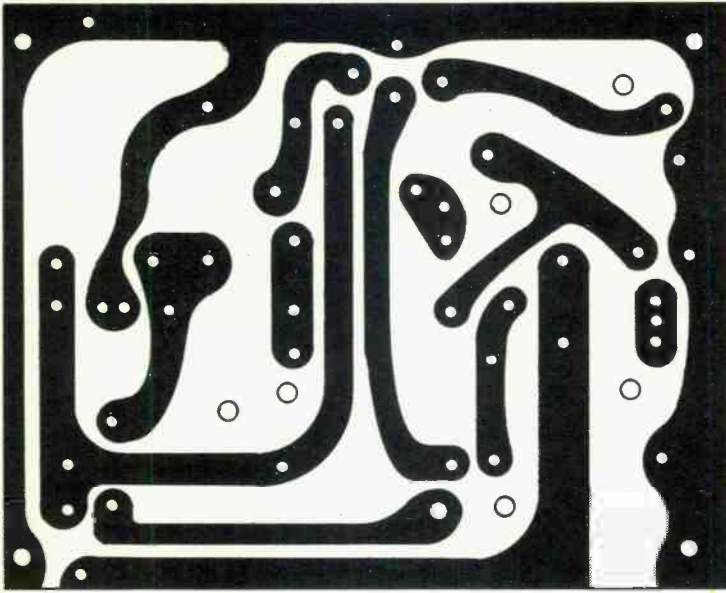

Fig. 3. If you decide to make your own printed circuit board, use this full-size drawing as a guide to proper etching of foil side of board.
File the switch hole in the cabinet to fit the type of switch used. Mount the switch, speaker, battery clip, and *L1* as shown in the photograph (Fig. 3). Wire the switch and battery clip as shown. The lead from the positive terminal of the battery goes to one switch contact, and a short lead should be soldered to the other contact—to go to point *F* on the board. A doughnut cut from plastic foam is placed around the rear of the speaker; the board compresses the foam when it is mounted, and thus holds the speaker snugly.
Fig. 3. Part of the speaker and coil L1 pass through the circuit board and must be carefully positioned to fit properly. The speaker is not bolted and can be shifted.
**Construction.** The Responder can be built into any 8" x 6" x 3" enclosure. Parts placement is not critical, but perhaps the most suitable layout for the small parts is on a printed circuit board or plain perforated phenolic board. If you want to make your own printed circuit board, follow the actual-size drawing shown in Fig. 3. You can buy one already etched and drilled for \$2 post-paid (see Parts List).
Fig. 3. This inexpensive, commercially available unit, with modification, was used to charge the batteries. An interlock similar to the type used on TV sets prevents the a.c. line voltage from getting at any of the exposed battery connections while the lid is up.